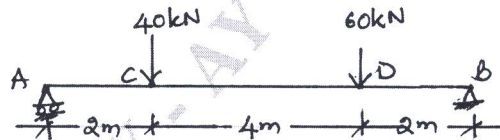

Fig.Q.4(b)
- b. For the simply supported beam loaded as shown in Fig.Q.4(b). Taking $E = 200 \text{ GPa}$, $I = 7 \times 10^8 \text{ mm}^4$. Find the magnitude and location of Max. deflection in the beam. Use Conjugate Beam Method. (12 Marks)